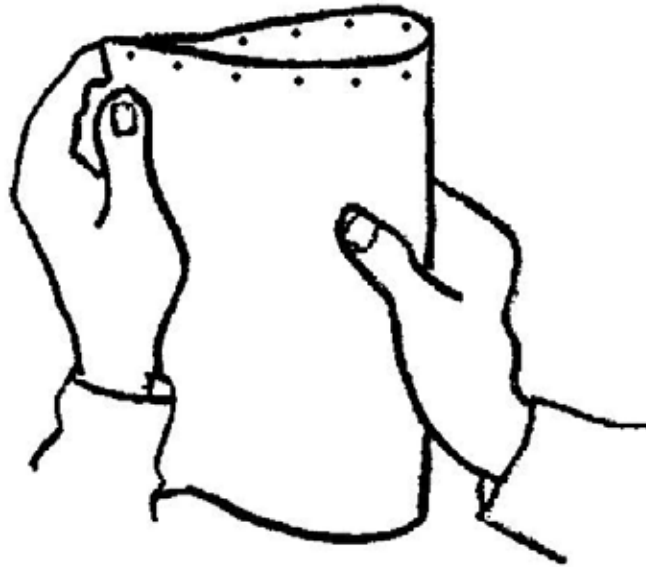

Figure 4-1
1. Adjust the punch edge guide to the correct paper length. Check the punch alignment by punching a sheet of paper and folding it in half along the punched edge (See Figure 4-1). Match the holes up: if the corners of the paper match with no overlap, the alignment is correct. If not, readjust the guide and repeat the process until the edges are square.